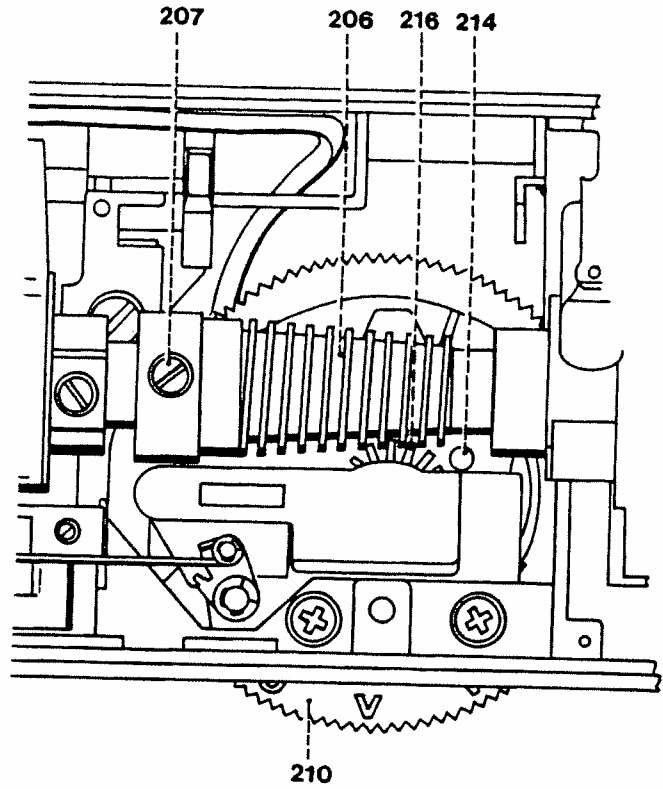

Fig. 20c
- Set regulation disc 210 at the letter „V“ (fig. 20c).